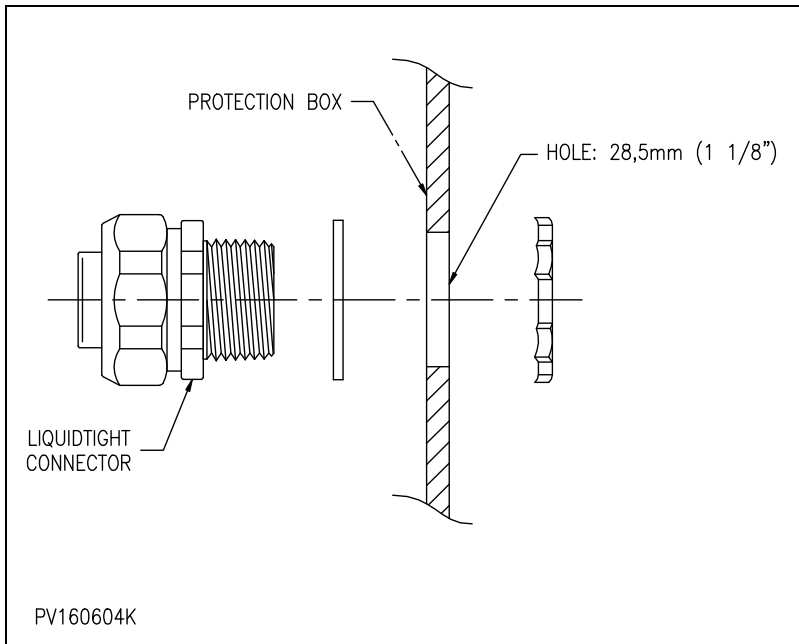

Figure 15 : Mounting the liquidtight connectors
3. After visualizing the routing of all cables, drill holes for the liquidtight connectors. Refer to *Figure 15* : “Mounting the liquidtight connectors”.